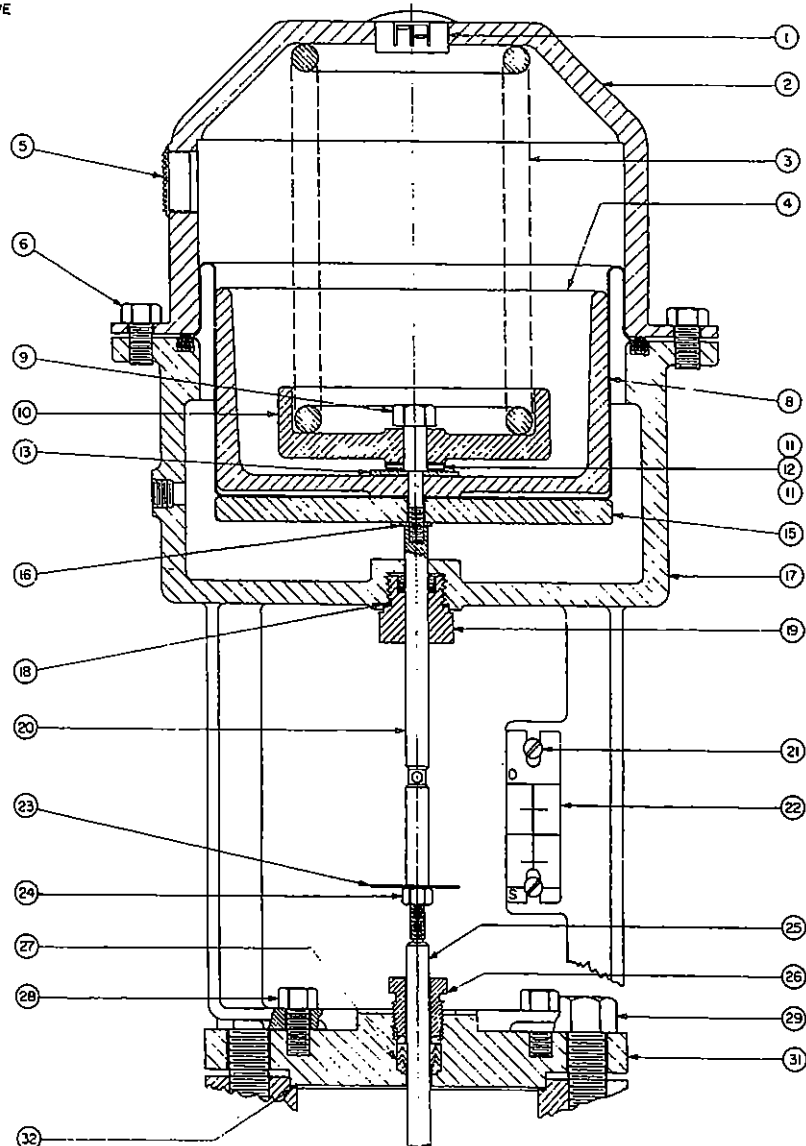

Figure VA-106-6 -- Actuator Assembly, AERCO Air Operated Control Valve, Type Cxt-P
- NEW Valve Top Gasket (32)
- Valve Top (31)
- Cap Screws (29) -- tighten evenly and sufficiently all around so that Valve does not leak.
- NEW Packing Assembly (27)
- Packing Nut (26)
- Hex Nut (24)
- Indicator Disc (23)
- CM41. See Figure VA-106-6. If the Actuator has been disassembled, reassemble into the Air Top Body (17) in the following order:
- Diaphragm Retainer (15)
- Diaphragm (8)
- Air Top Piston (4)
- Fender Washer (13), not on 3-inch or 4-inch Valves
- Thrust Washers (11) and Thrust Bearing (12)
- Spring Seat (10)
- Shoulder Bolt (9)
- Flat Washer (16), not on 4-inch Valve
- Upper Shaft (20) into the Air Top Body (17) and assembled to the Shoulder Bolt (9), being careful not to scratch the surface of the Shaft
- Compression Spring (3)